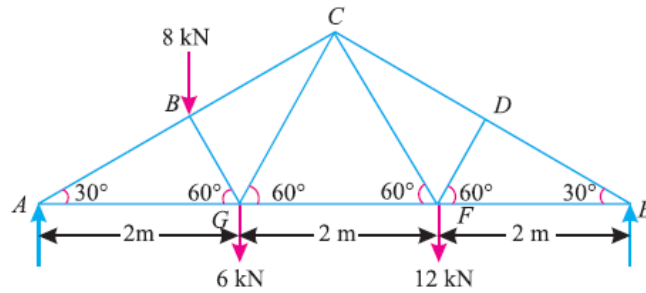

Fig.28
2. An inclined truss loaded as shown in fig.28 [L4] [12M]